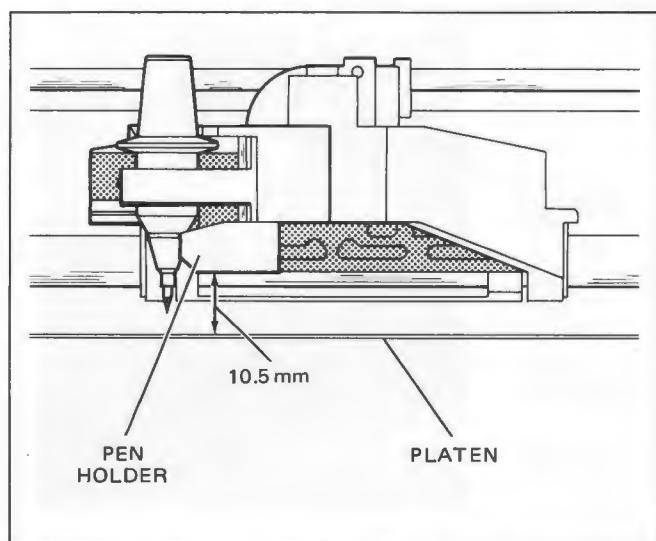

Figure 8-25. Measure Pen Height
- m. Measure the pen height by positioning the pen holder to the center of the platen. Using a 100 mm ruler measure the distance from the platen to the bottom of the pen holder. The distance should be 10.5 mm. See Figure 8-25. If adjustment is necessary, refer to Section V.